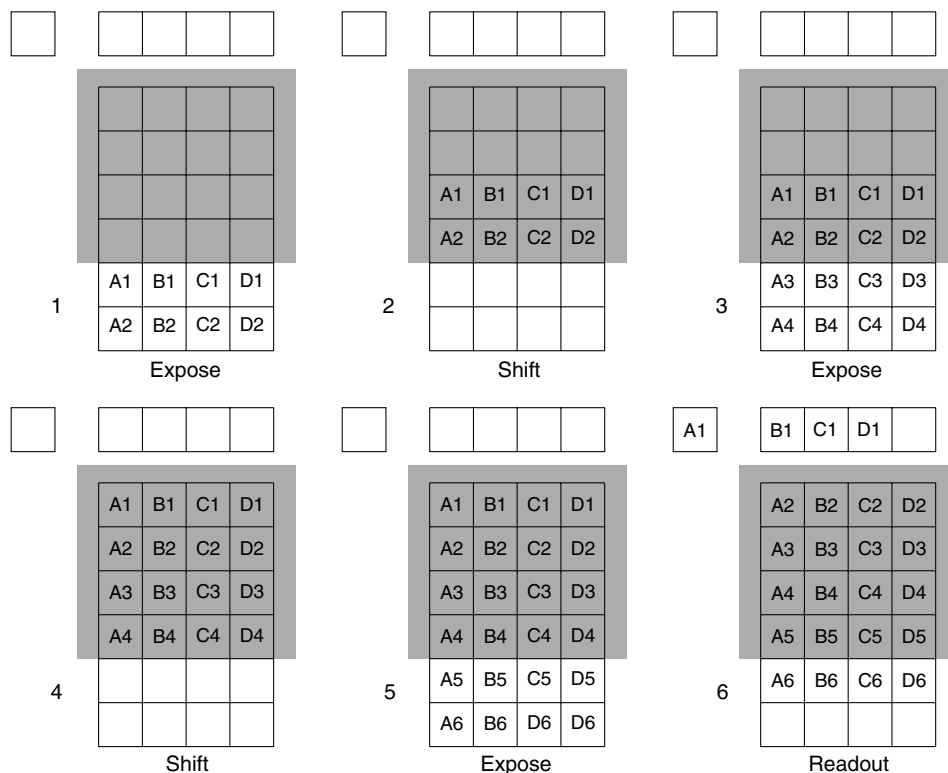

Figure 20. Kinetics Readout
Below is a simplified illustration of kinetics mode. Returning to our  $4 \times 6$  CCD example, in this case  $2/3$  of the array is masked, either mechanically or optically. The shutter opens to expose a  $4 \times 2$  region. While the shutter remains open, charge is quickly shifted just under the mask, and the exposure is repeated. After a third image is collected the shutter is closed and the CCD is read out. Since the CCD can be read out slowly, very high dynamic range is achieved. Shifting and readout are shown in Figure 20.
**Example:** Referring to the readout shown in Figure 20, there are 6 pixels perpendicular to the shift register and the Window Size is 2 pixels high. The number of frames is 3. If the Vertical Shift Rate for the CCD is  $1.6 \mu\text{sec}/\text{row}$ , the Shift time will be  $3.2 \mu\text{sec}$  per frame.